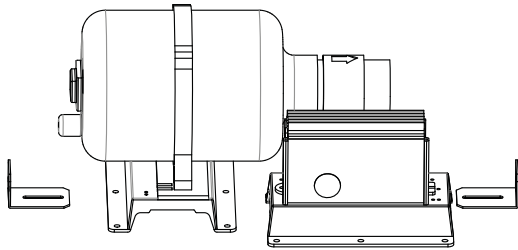

Figure 5a
6. Place the equipment between the brackets and attach all the plumbing and electrical connections. See Figure 5a for AirMasseur and 5b for MicroSilk baths.